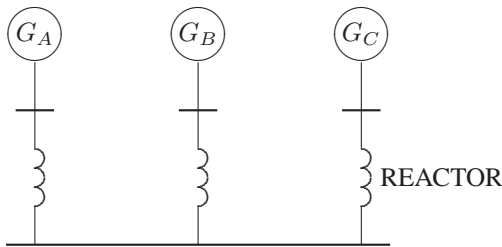

FIGURE 83
10.11. Three 15-MVA, 30-kV synchronous generators A, B, and C are connected via three reactors to a common bus bar, as shown in Figure 83. The neutrals of generators A and B are solidly grounded, and the neutral of generator C is grounded through a reactor of 2.0 Ω . The generator data and the reactance of the reactors are tabulated below. A line-to-ground fault occurs on phase *a* of the common bus bar. Neglect prefault currents and assume generators are operating at their rated voltage. Determine the fault current in phase *a*.